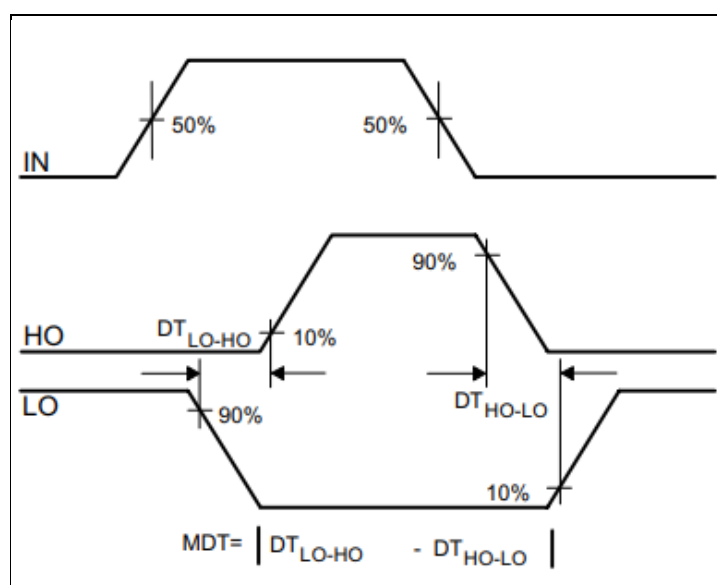

Figure 8 Dead Time Definitions
This 2ED2184 (4) S06F (J) features integrated deadtime protection circuitry. The deadtime is fixed for 2ED2184S06F; is programmable for 2ED2184S06J, it provides greater design flexibility. The deadtime feature inserts a time period (a minimum deadtime) in which both the high- and low-side power switches are held off; this is done to ensure that the power switch being turned off has fully turned off before the second power switch is turned on. This minimum deadtime is automatically inserted whenever the external deadtime is shorter than DT; external deadtimes larger than DT are not modified by the gate driver. Figure 8 illustrates the deadtime period and the relationship between the output gate signals.